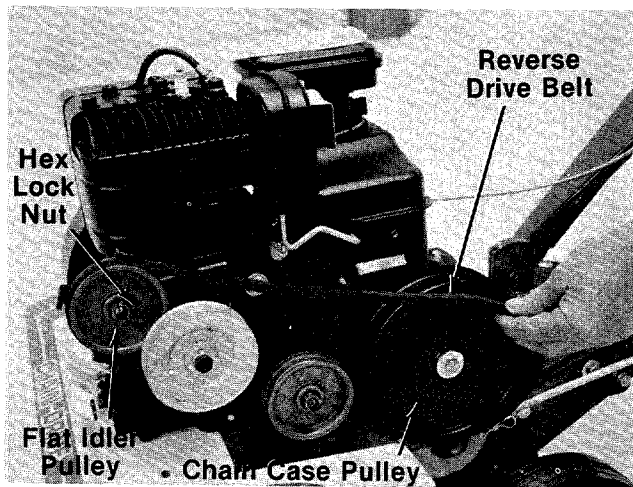
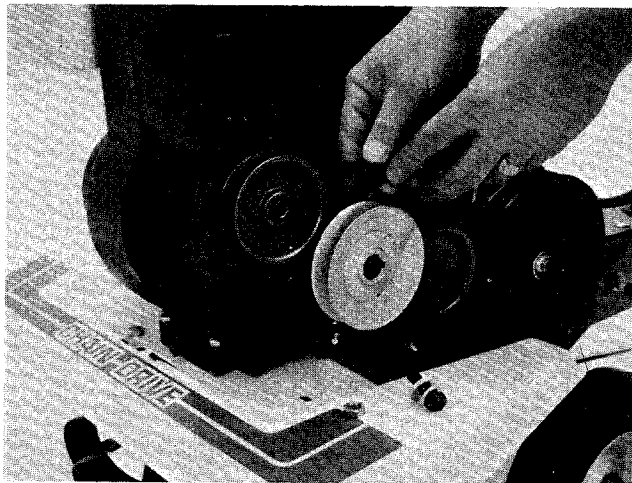

FIGURE 23.
FIGURE 24.
2. With the shift lever in neutral (N) position, slip the reverse drive belt off the chain case pulley and "V"-Groove of engine pulley. See figure 23.
3. Place the shift lever in reverse (R) position. Remove hex lock nut holding the flat reverse idler pulley. See figure 23. Pull the idler bracket forward with one hand. Slip off flat idler and belt together. See figure 24.